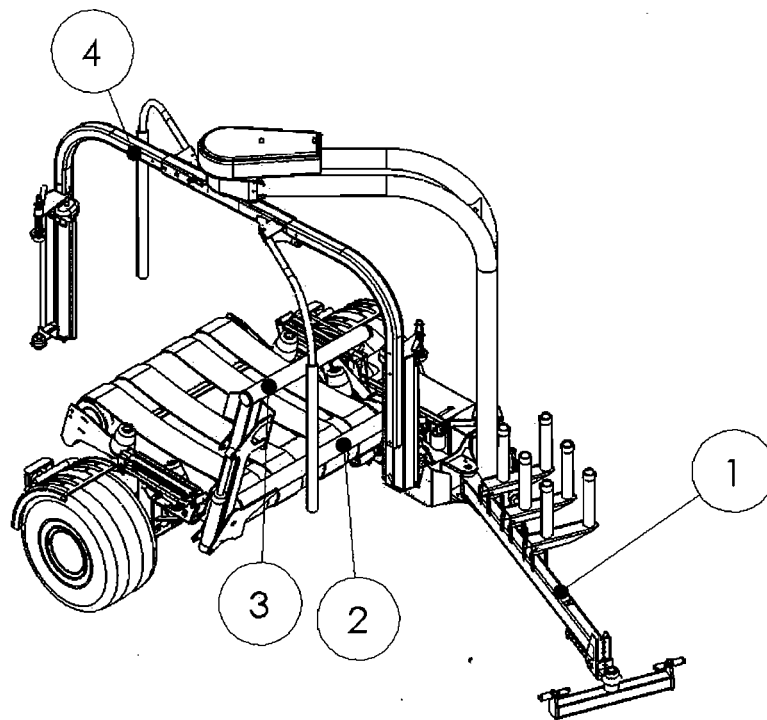

Fig. 8.1
- 8.1** To change from working to transport position: See fig. 8.1